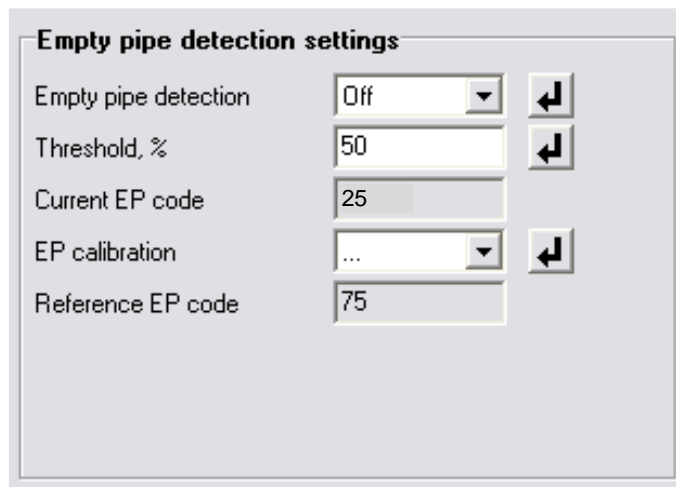

Fig.8. “Empty pipe detection settings” tab
- In the **Empty pipe detection settings** tab (see Fig.8), take the value of **Reference EP code** setting expressed in conventional units (e.g., 75) and the value of **Current EP code** setting also expressed in conventional units (e.g., 25).